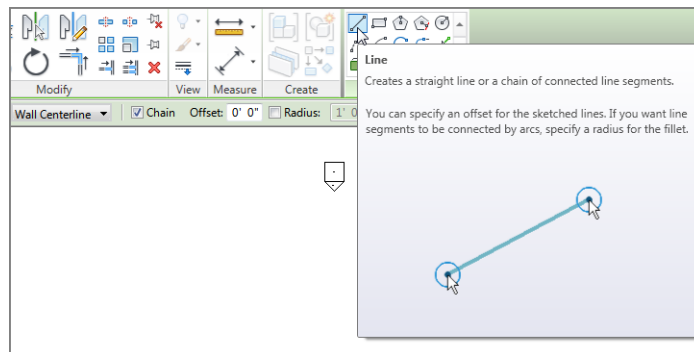

FIGURE 1.17: You can draw any shape you need.
4. The Draw panel has a series of sketch options. Because this specific wall is straight, make sure the Line button is selected, as shown in Figure 1.17.